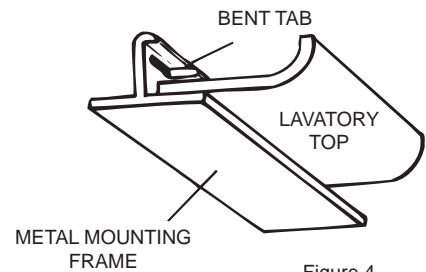

Figure 4
10. Put the metal mounting frame around the lavatory. Bend the tabs in the frame toward the lavatory, so that the frame is held to the edges all the way around. See Figure 4.